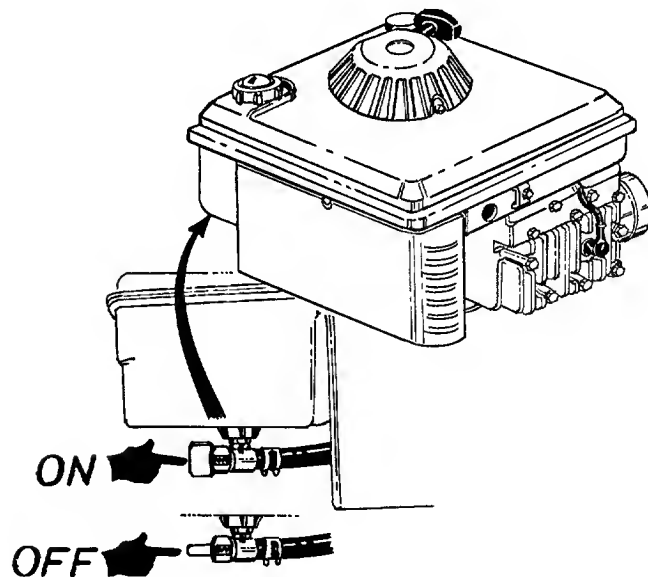

FIGURE 13.
4. Open fuel shut-off valve, located beneath the fuel tank. See figure 13.